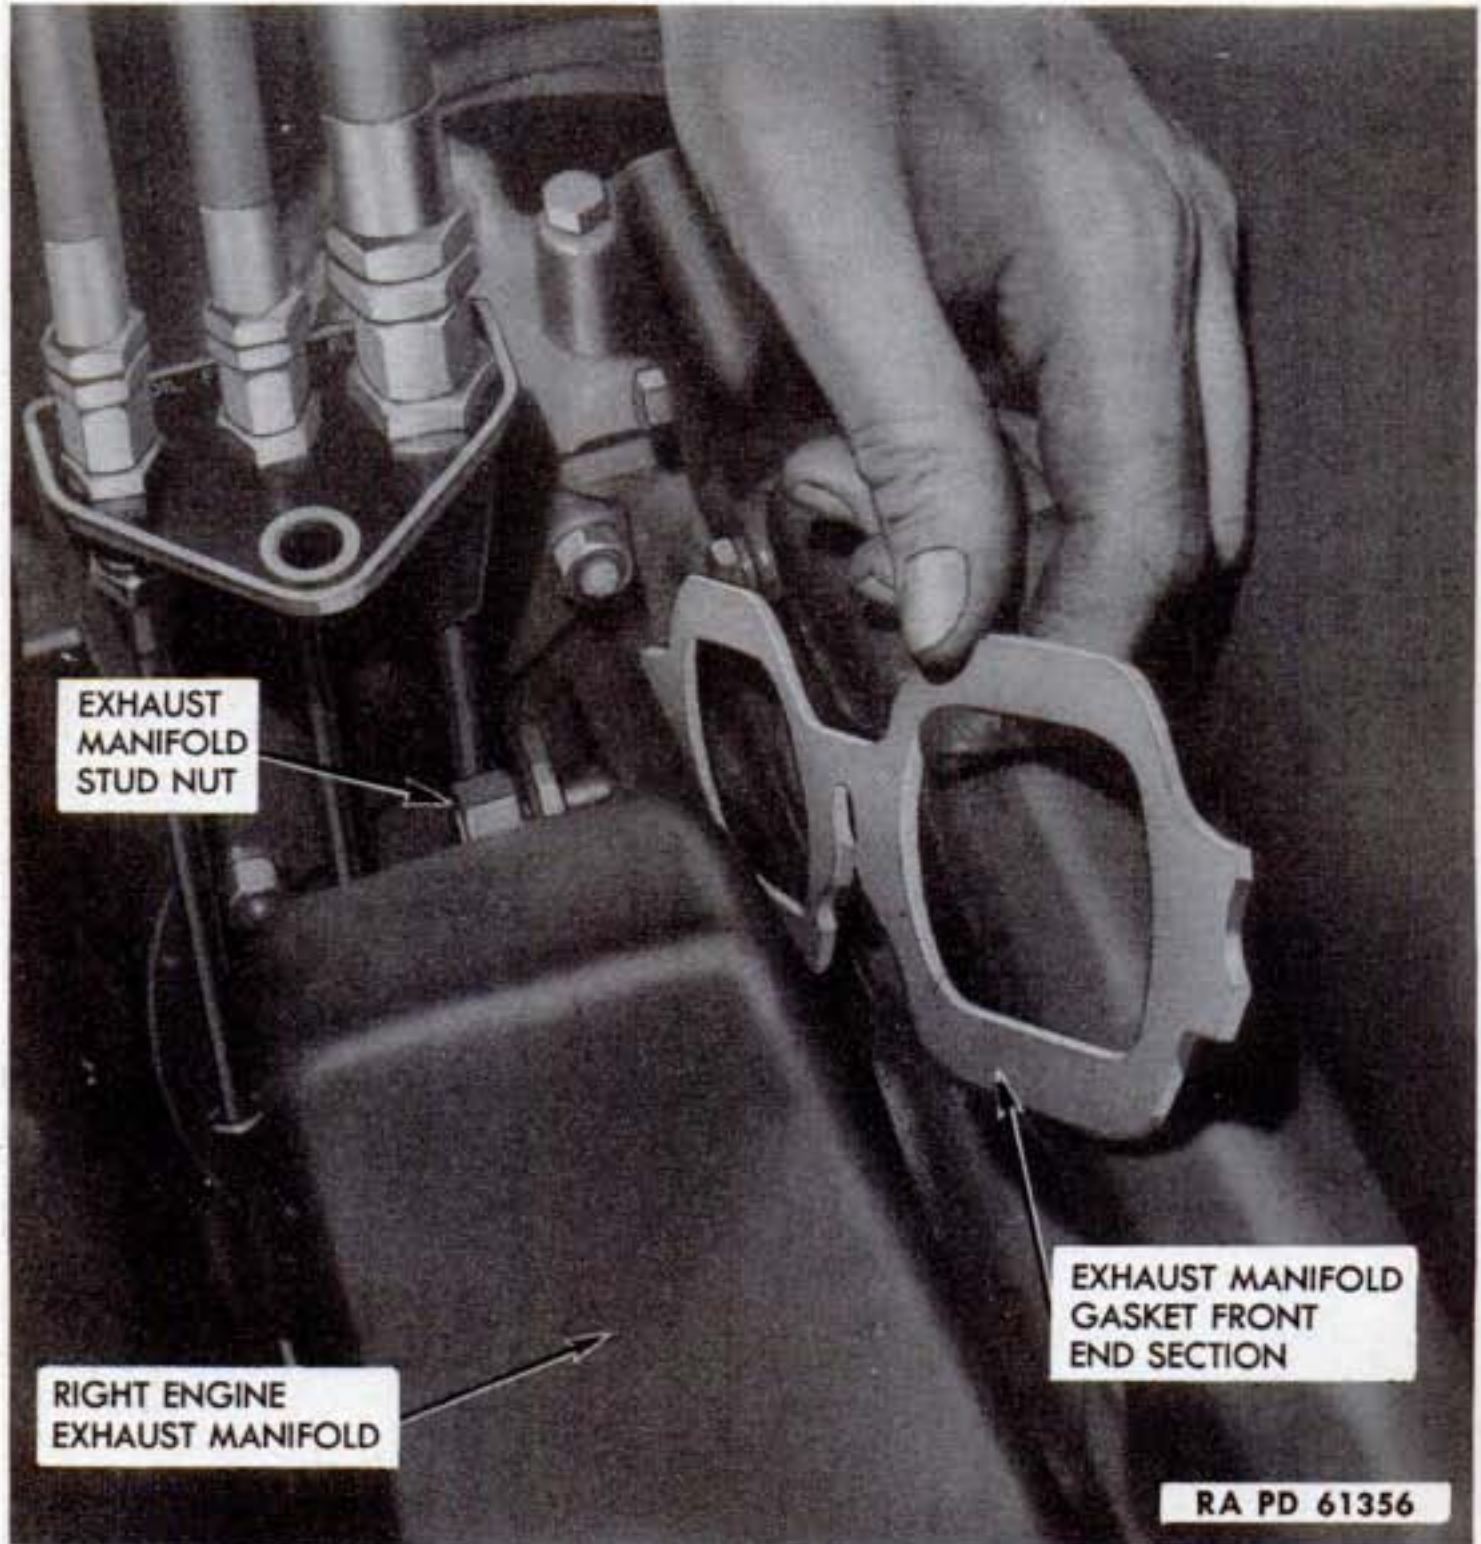

Figure 49—Sliding Exhaust Manifold Gasket Down on Studs
c. Installation of Exhaust Manifold Gaskets. Thoroughly clean all faces on exhaust manifold and cylinder head exhaust parts. Slot the stud holes in the new exhaust manifold gaskets at the bottom of the stud holes so gaskets can be dropped down over the studs (fig. 49). Carefully position all three gaskets on the studs. Push manifold into place against cylinder head, and tighten stud nuts